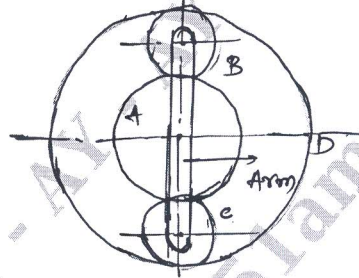

Fig.Q.8(b)
- b. An epicyclic train of wheels is arranged as shown in Fig.Q.8(b). How many revolutions does the arm make to which the pinions B and C are attached?